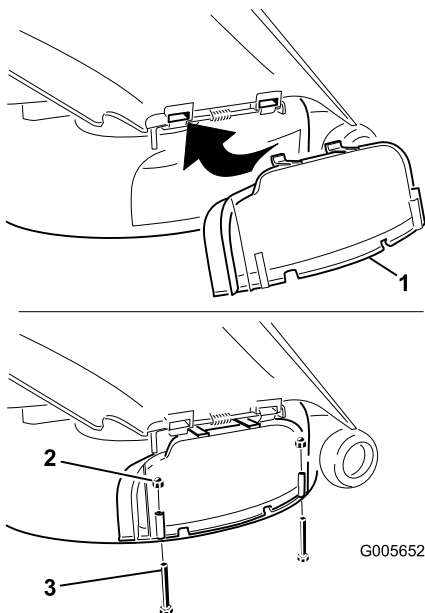

Figure 24
3. Lift the grass deflector and slide the tabs on top of the discharge cover under the grass deflector retaining rod. Rotate the discharge cover down over the opening, and onto the lower lip of the mower (Figure 24).
4. Secure the discharge cover to the lower lip of the mower with two bolts (1/4 x 2-1/2 inches) and two cap nuts (1/4 inch) as shown in Figure 24.